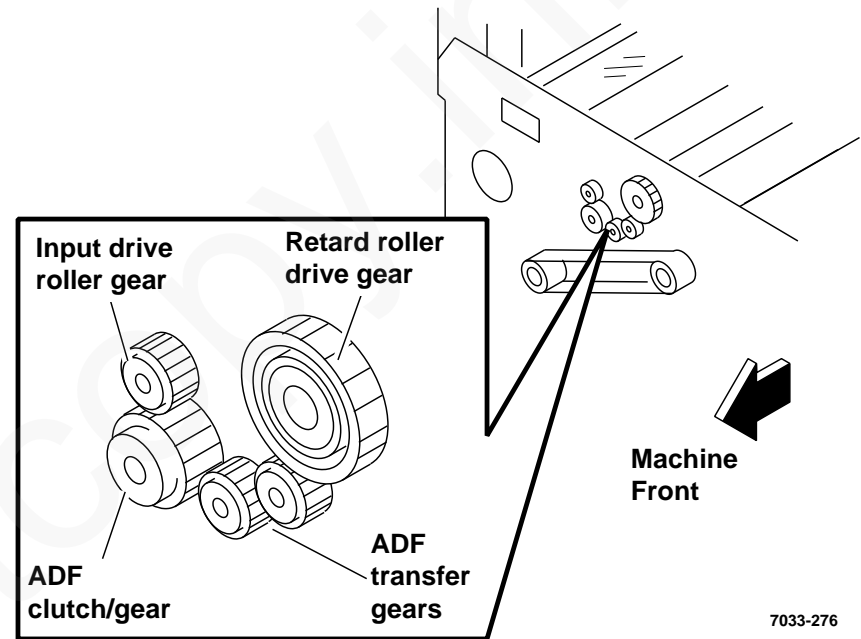

Figure 10. ADF transfer gears and retard roller drive gear
- b. Remove transfer gear(s) (Figure 10).
- c. Slide gear (and bearing if desired) off of the shaft (Figure 10).